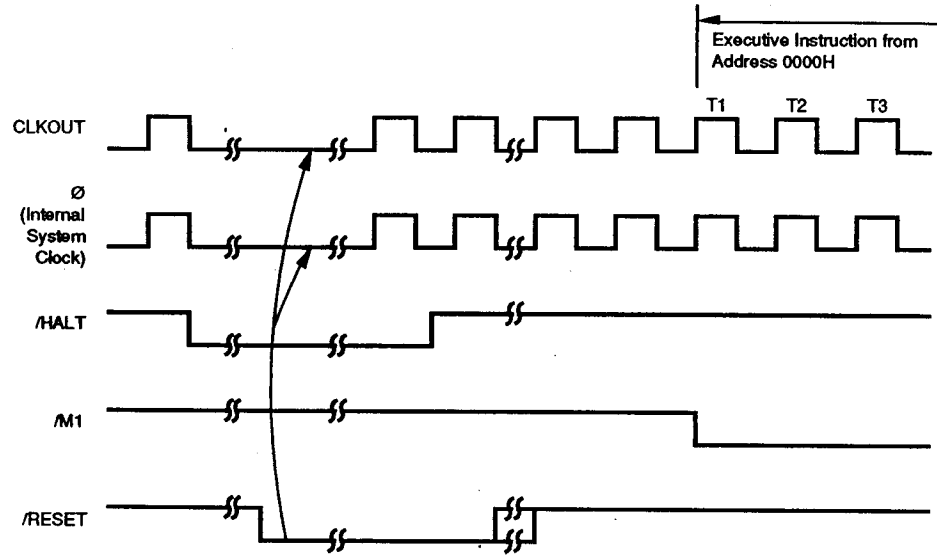

**Figure 40. Halt Release Operation Timing By Reset in STOP Mode**
**Halt release in STOP Mode (HALTM=10) by  $\overline{\text{RESET}}$ .** When  $\overline{\text{RESET}}$  at "0" level is input into the IPC, the internal oscillator is restarted. However, the internal clock counter for warm-up does not operate. Therefore, the operation is not carried out properly due to unstable clock oscillation. It is necessary to hold  $\overline{\text{RESET}}$  at "0" level for sufficient time. The halt release operation by the IPC resetting in STOP Mode is shown in Figure 40.